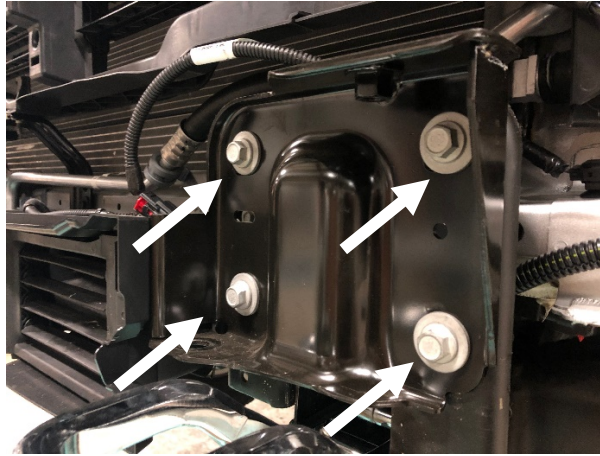

Figure 14
13. Use a 15mm socket wrench to take four (4) bolts holding the mounting plates and lower louvers to the frame horns. (Figure 14)